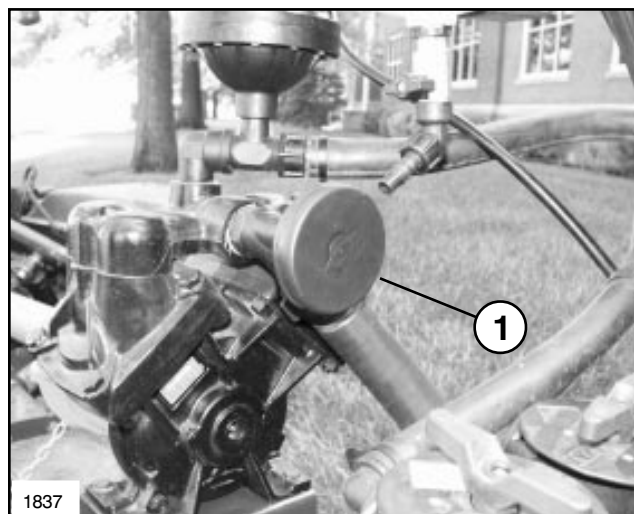

FIG. 5
13. SUCTION DAMPENER: Prevents Pump cavitation. (See FIG. 5)